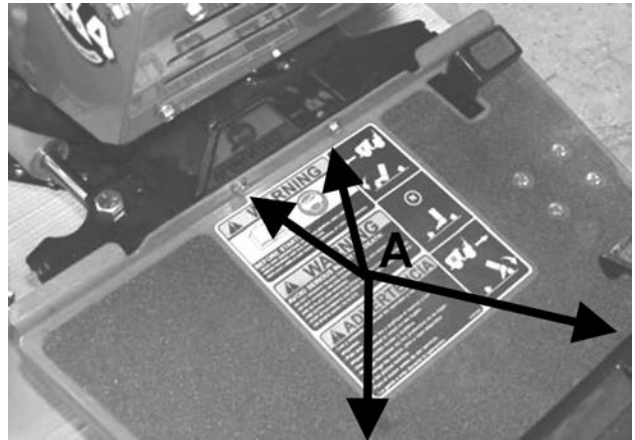

FIGURE 1
3. Remove the four bolts **A** securing foot plate on tractor. **Figure 1**